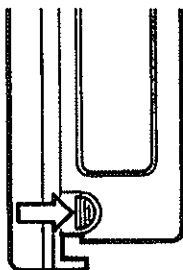

Figure 1-1. Press Battery Latches
1. The battery latches are located at the bottom of the radio on each side (Figure 1-1). Press and hold both battery latches toward the front of the radio.